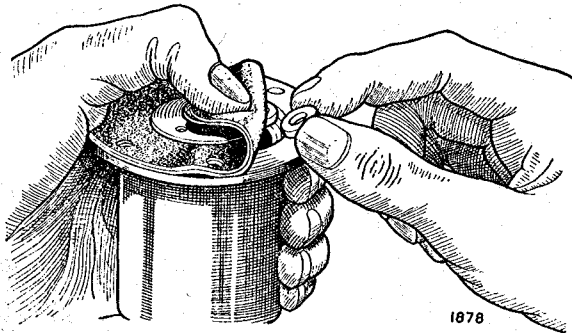

Fig. 6. Inserting the diaphragm centralizing rollers
10. Fit the 11 brass centralizing rollers (Fig. 6) by turning